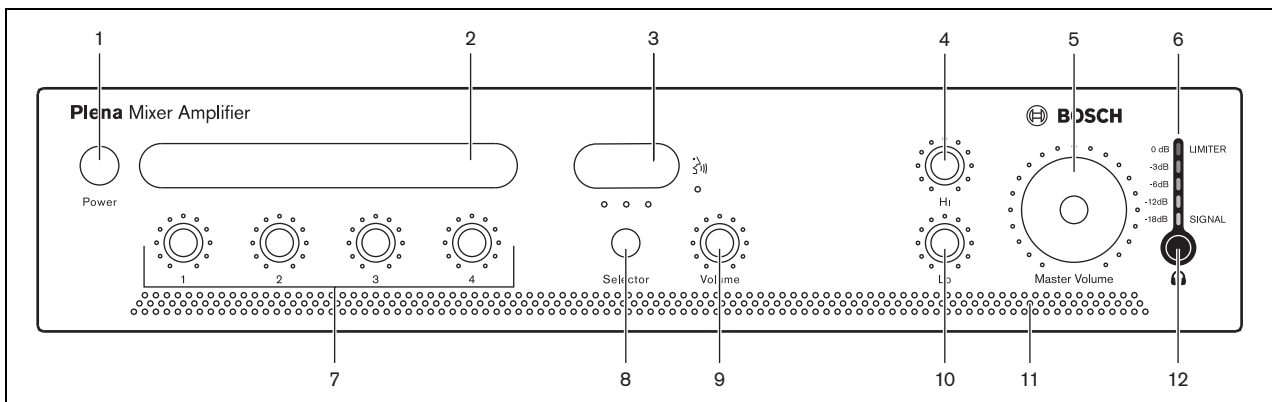

figure 5.1: Front panel
- 1 Set the power button (1) on the front of the unit to On - pushed in (see figure 5.1).
Set the power button (1) on the front of the unit to Off - popped out (see figure 5.1).
Users can create custom labels for the microphone/line inputs and description of the music sources. These labels can be attached to the mixer amplifier at position numbers 2 and 3 (see figure 5.1). Colored pins can also be inserted at various positions around the dial controls to indicate the favorite settings for a particular application.
Use the Hi (high) and Lo (low) tone controls (see figure 5.1, numbers 4 and 10) to change the tone.